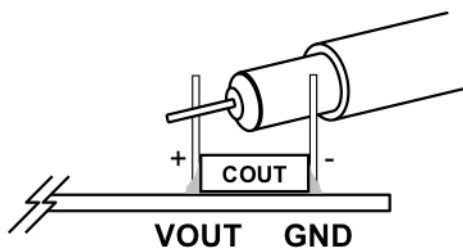

Figure 3. Measuring Output Voltage Ripple
1. When measuring the output or input voltage ripple, do not use the long ground lead on the oscilloscope probe. See Figure 3 for the proper scope probe technique. Short, stiff leads need to be soldered to the (+) and (-) terminals of an output capacitor. The probe's ground ring needs to touch the (-) lead and the probe tip needs to touch the (+) lead.